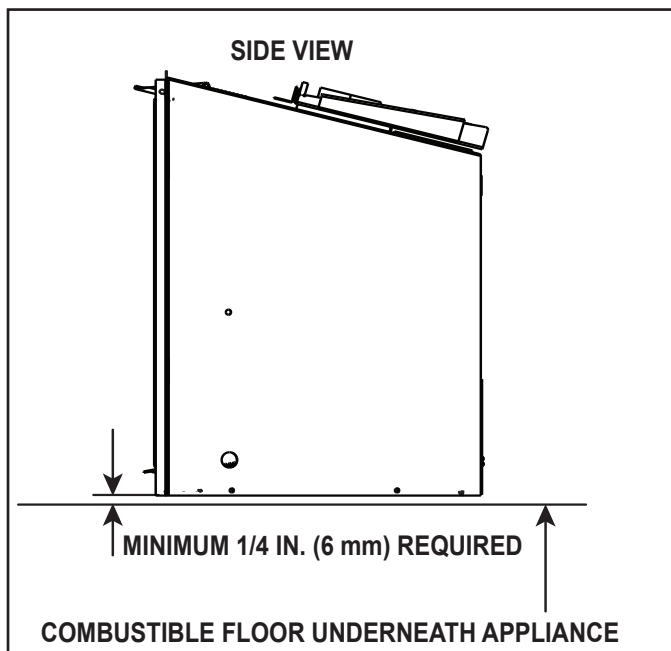

Figure 3.17 Solid Fuel Floor Clearance
- A minimum 1/4 in. (6 mm) gap from the bottom of the appliance to any floor surface is **REQUIRED**. See side view in Figure 3.17.
- Combustible flooring underneath the appliance is acceptable with a 1/4 inch gap. See Figure 3.17.